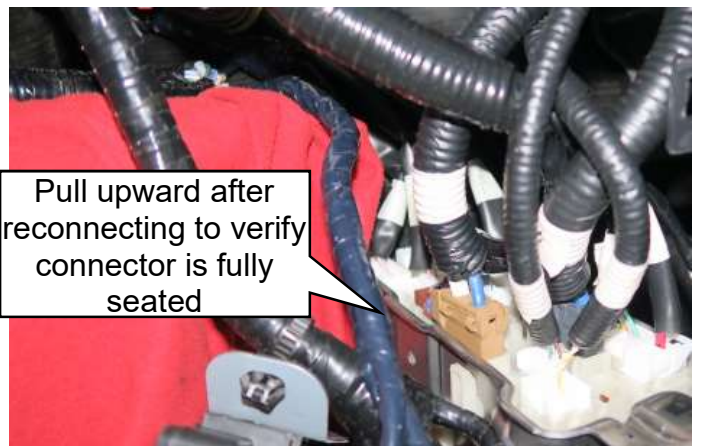

Figure 17
- Reconnect the brown harness connector and pull upward on the harness connector to verify the connector is fully seated in the fuse block (J/B) (Figure 17)